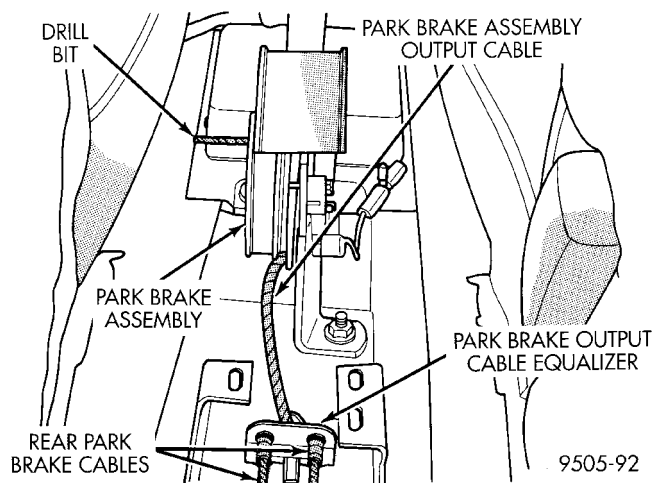

Fig. 47 Park Brake Cables Properly Installed In Equalizer
(1) Be sure rear park brake cables are properly installed in the equalizer (Fig. 47).